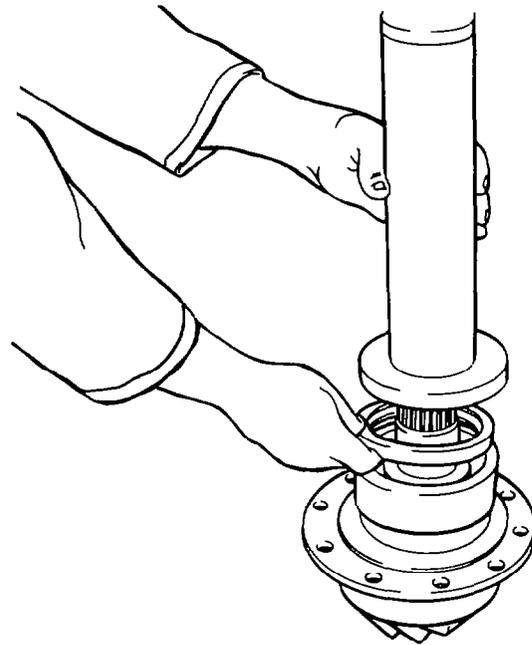

Figure 62 Fitting the Shaft Seal
- o. Use Special Tools No. 12 and 13 to fit the shaft oil seal into the flange (see Figure 62); install the retainer, ensuring that it is correctly seated: fit the yoke nut to the pinion shaft and hand tighten.